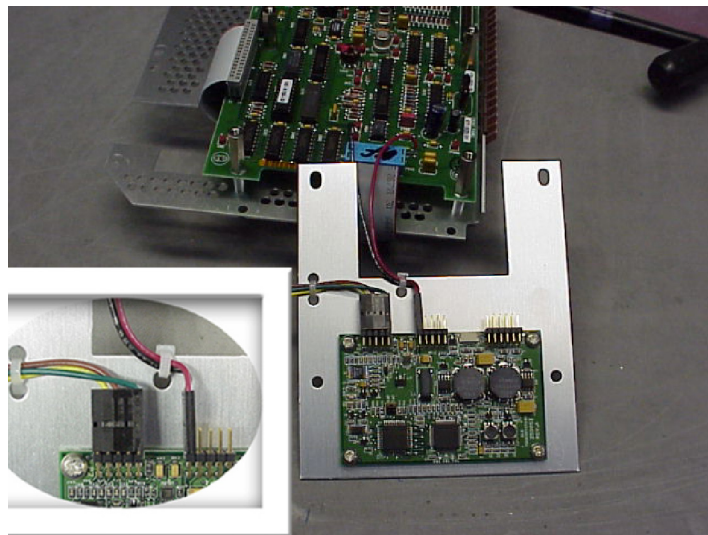

Figure 11: Connecting the power supply cable to the Touch Panel Controller board
- d. Install the 2-pin connector of the new power supply cable (Tektronix part number 179-4047-xx) to connector P1 on the Touch Panel Controller board. Place the black wire closest to the bracket, and the red wire in the upper position, above the black wire. See Figure 11.
- e. Fasten the two cables to the bracket using cable ties as shown in Figure 11. Cut off the end of the cable ties.